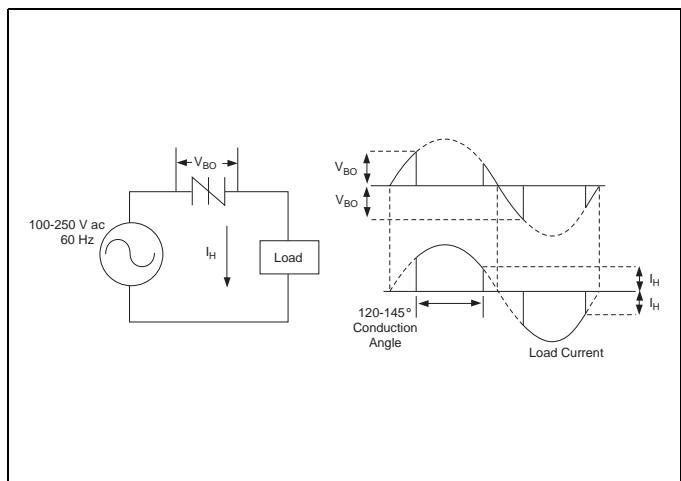

Figure E9.14 Basic Sidac Circuit
- See Figure E9.14 for clarification of sidac operation.
[Refer to Figure E9.14 for Basic Sidac Circuit]